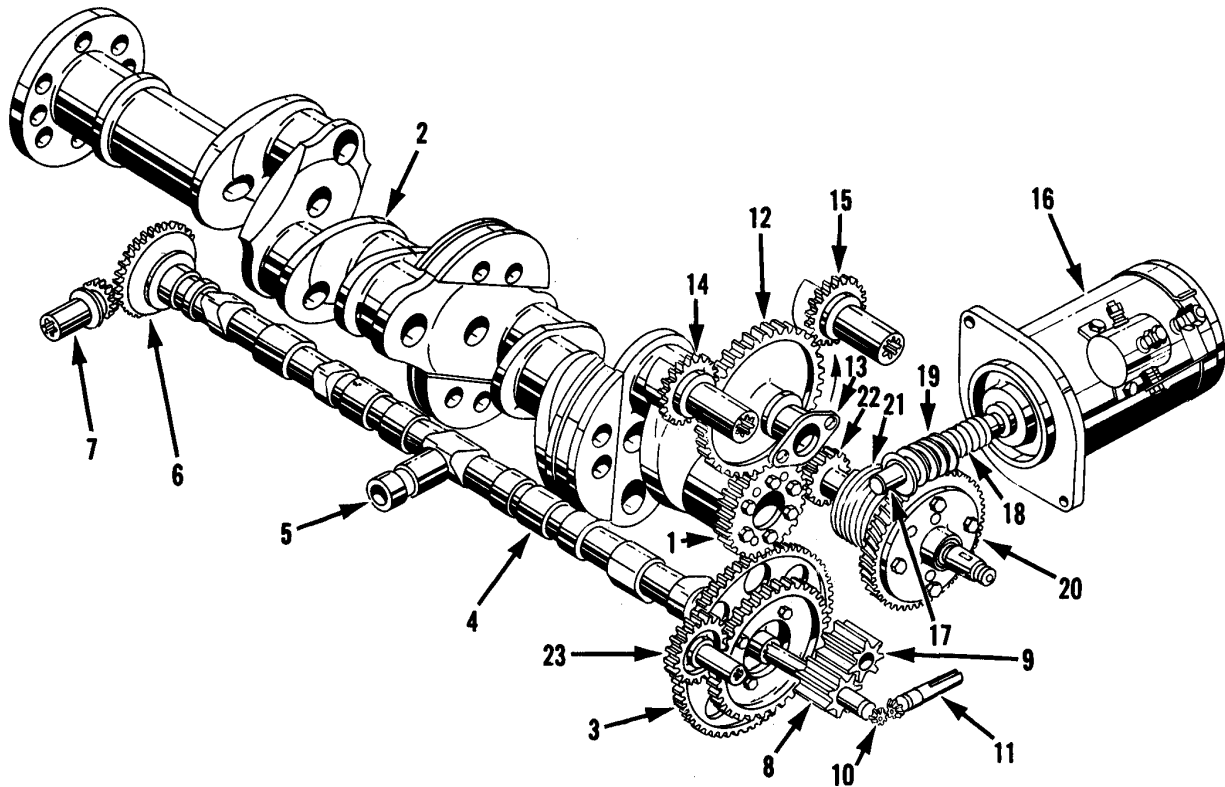

FIGURE 2-2. GEAR TRAIN DIAGRAM (TYPICAL WITH SANDCAST CRANKCASE).
2-11. GEAR TRAIN- SANDCAST CRANKCASE (See Figure 2-2). When starting the engine, torque is transmitted from the starter (16) through adapter components (17 through 22) to crankshaft gear (1). As wormwheel (20) is turned, spring mounted on its hub is tightened to grip knurled drum of shaftgear (22). This design eliminates wear and stress encountered in direct drive starter systems. After engine is started, spring returns to its normal position, thus disengaging starter. The shaftgear (22) is now used to transmit torque from the crankshaft gear to the generator drive pulley (16, Figure 4-16).
a. Torque from the crankshaft (2) is transmitted by the crankshaft gear (1) directly to the idler gear (12) and camshaft gear (3).
c. The fuel pump drive gear is driven by the camshaft cluster gear. The splined end of the oil pump and tachometer drive gear (8) mates with internal splines of the camshaft gear and transmits torque to the oil pump driven gear (9) and the tachometer drive gear (10). The governor drive bevel gear (6) on the front of the camshaft drives the governor driven bevel gear (7).